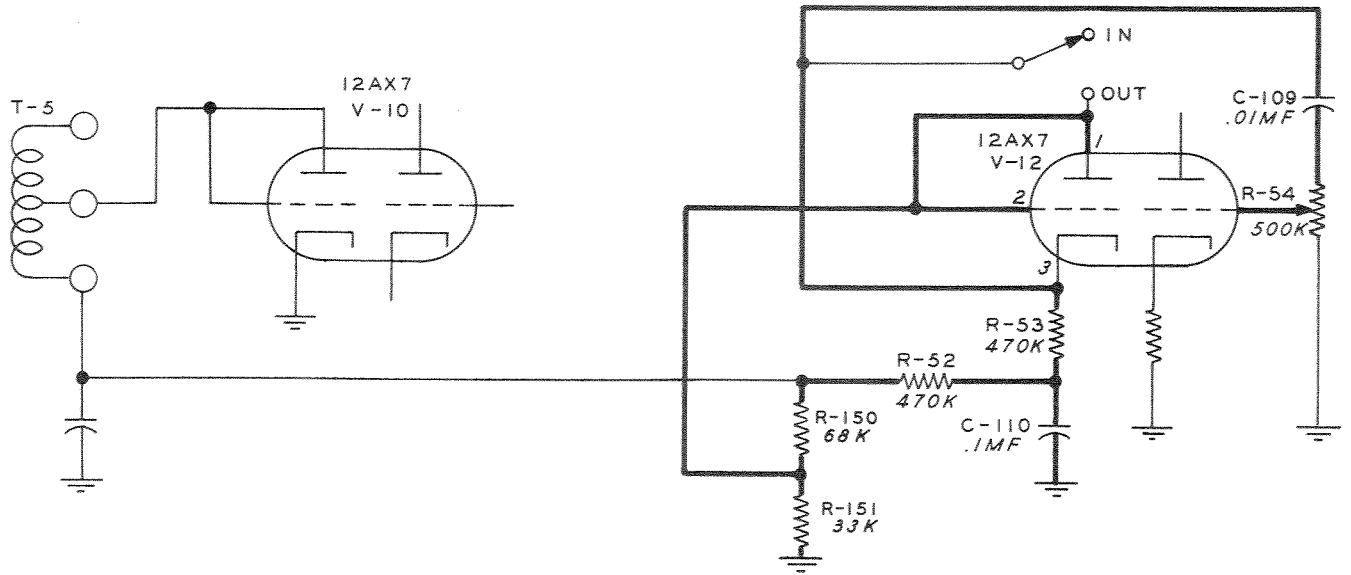

Figure 4-3 Noise Limiter
4.2.10. NOISE LIMITER. - A series type noise limiter is used in the 51J receiver. This limiter employes one half (pins 1, 2, and 3) of a type 12AX7 dual triode tube, V-112. Refer to figure 4-3. Due to AC loading of the second detector, heavy noise impulses are automatically clipped from the positive audio peaks in the detector. The noise appearing on the negative side of the audio cycle is clipped by the noise limiter. In operation, a negative voltage produced by rectification of the carrier, is developed across capacitor C-210. This voltage cannot change rapidly due to the size of C-210 and R-152 through which C-210 charged. This negative potential is placed upon the cathode of the noise limiter tube through R-153. The cathode is then negative in respect to the plate of the noise limiter tube and current flows. This current is modulated by the audio which then appears on the noise limiter cathode (to which the grid of the audio amplifier section of V-112 is connected). The noise limiter diode will conduct as long as the